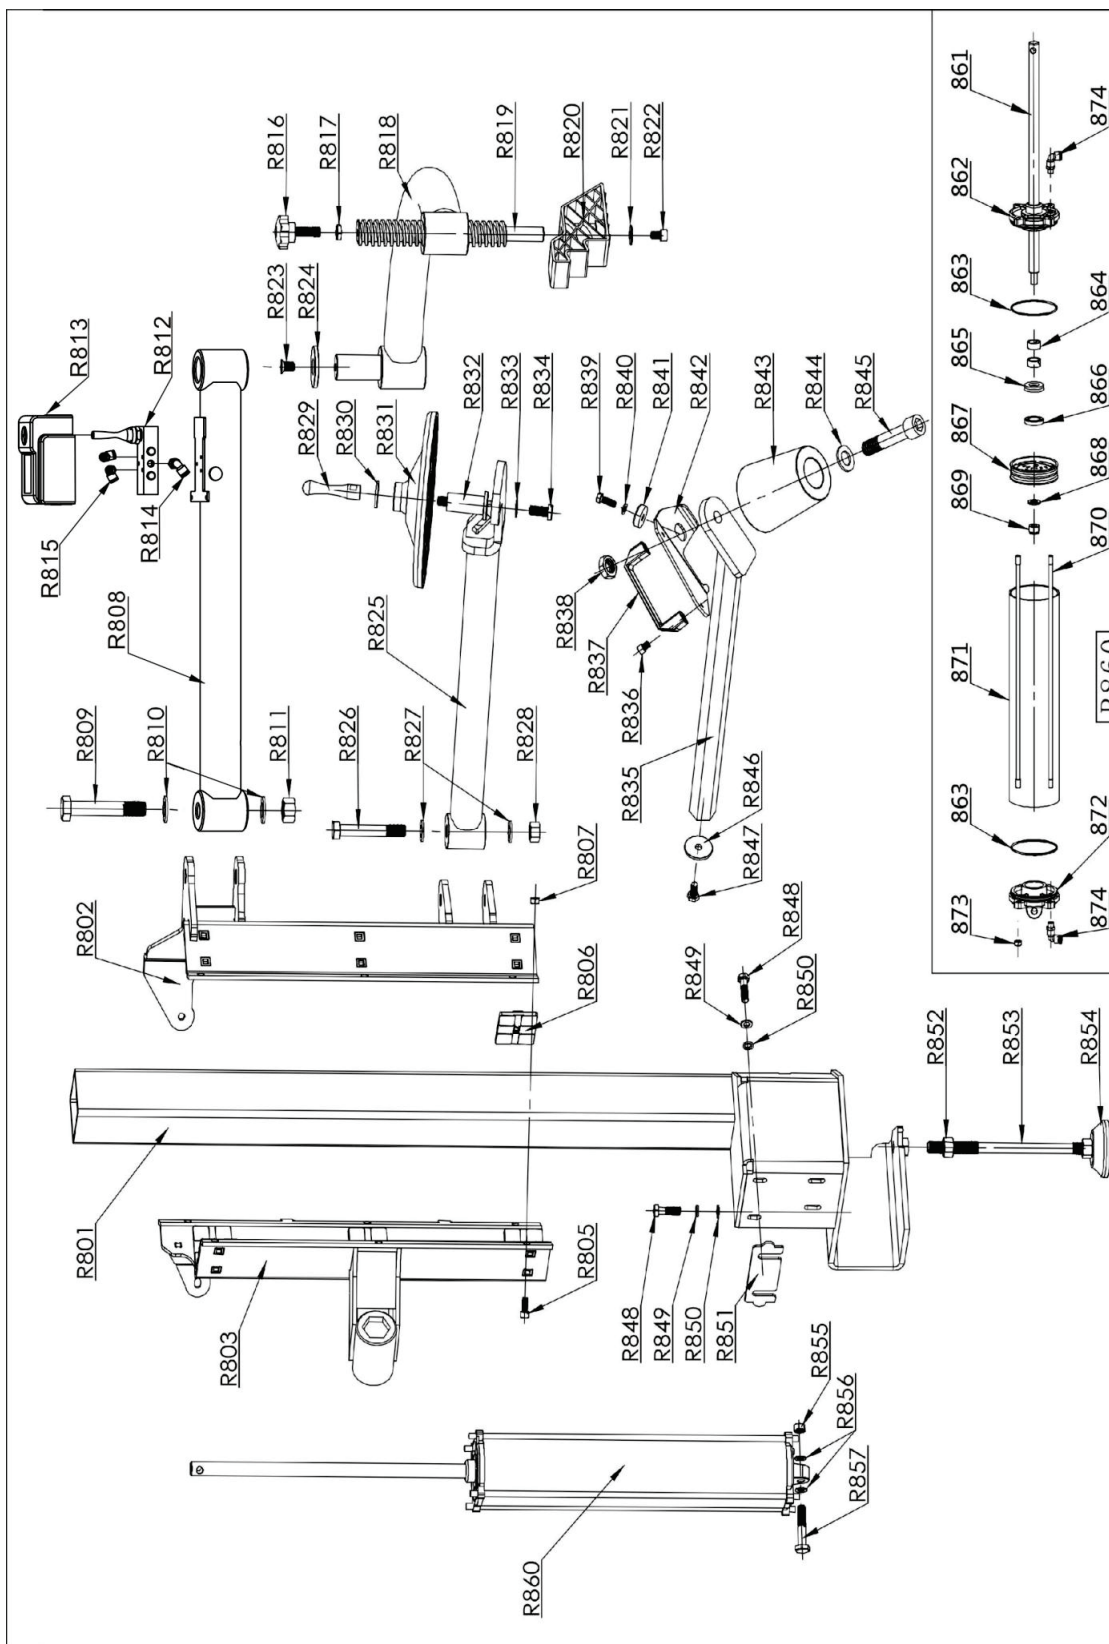

Fig.14
1011812 main body① (fig 14)
2065717 Rise and fall cylinder assemble (Fig.14)